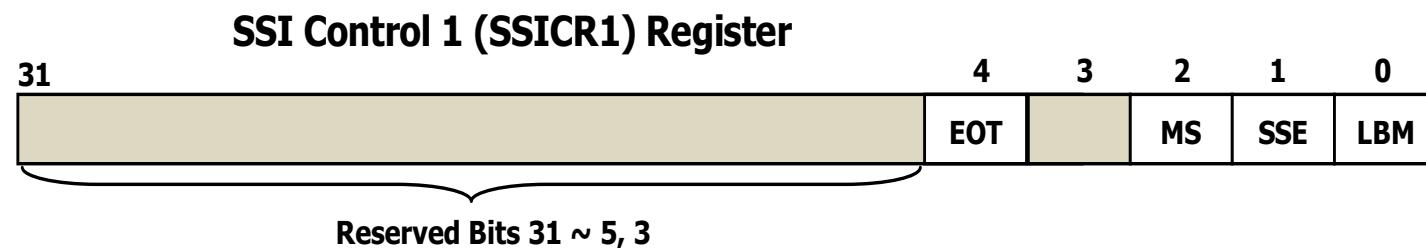

Figure 8.12 The bit field and functions of the SSICR1 Register.
- Figure 8.12 shows the bit field and functions of this register.